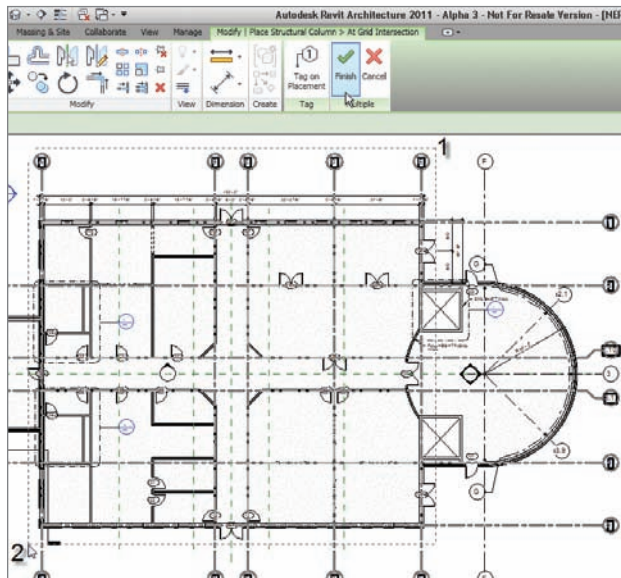

FIGURE 8.30 Picking a window where the columns will be placed
3. Pick a window around the rectangular portion of the east wing (from right to left), as shown in Figure 8.30.
4. Notice the Modify | Place Structural Column > At Grid Intersection tab now changes to allow you to either finish or cancel. Once you have the window placed, click the Finish button on the Multiple panel, as shown at the top of Figure 8.30.